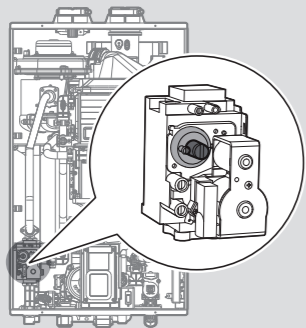

Figure 8. Set Screw Location
- Fully open several hot water fixtures and set the water heater to operate at 1-stage MIN mode (refer to page 8). Measure the CO₂ value at low fire. If the CO₂ value is not within 0.5% of the value listed in Table 2, the gas valve set screw will need to be adjusted. If adjustment is necessary, locate the set screw as shown in Figure 8. Using a ⁵/₃₂ in or 4 mm Allen wrench, turn the set screw no more than ¹/₄ turn clockwise to raise or counterclockwise to lower the CO₂ value.